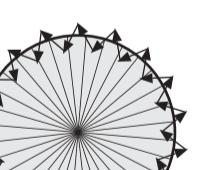

FIG.19
4.2.4 Walk from outside across to the detection pattern until red LED turns on for approx. 2sec then off, the next trigger should be 2sec interval (See FIG.19).</p